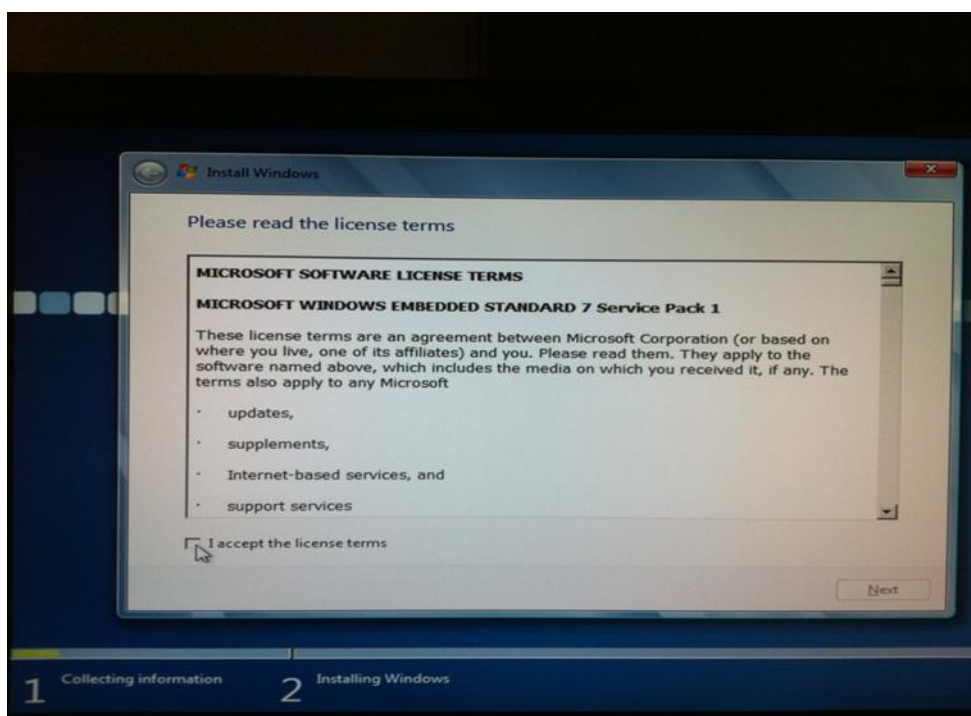

Figure 24: Accept the license terms
3. Read and accept the license as shown in Figure 24. Click Next